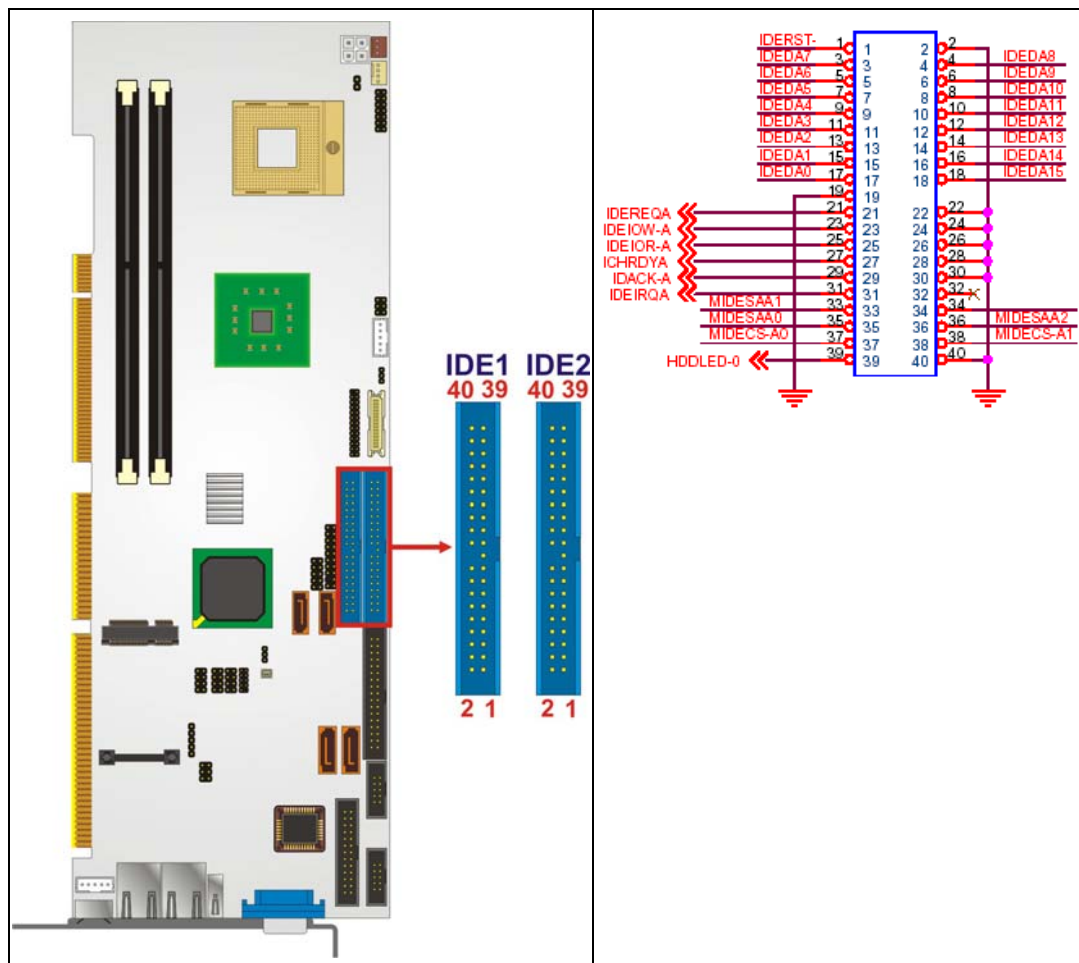

Figure 4-10: IDE Connectors Location
- CN Location:** See Figure 4-10